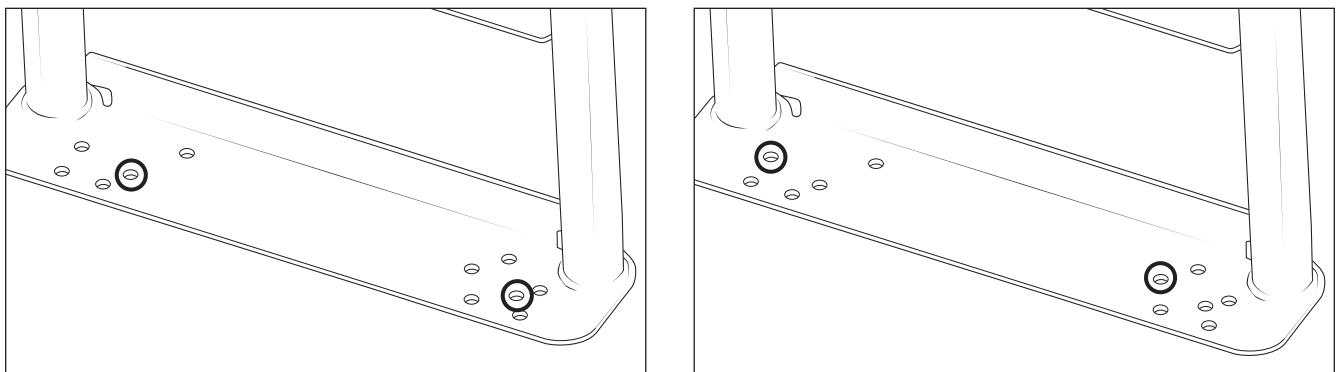
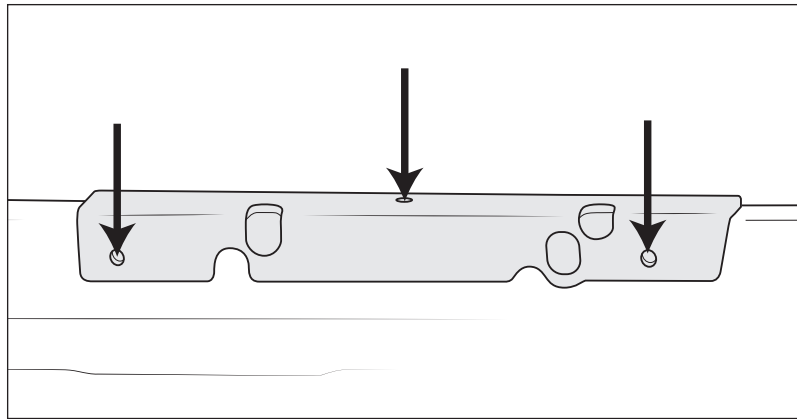

Figure 5: Standard Bed (left) Ram Box Bed (right)
Figure 6
4. Mark two hole locations on the bed floor (fig. 5) and three hole locations on the Bulkhead Bracket (fig. 6).